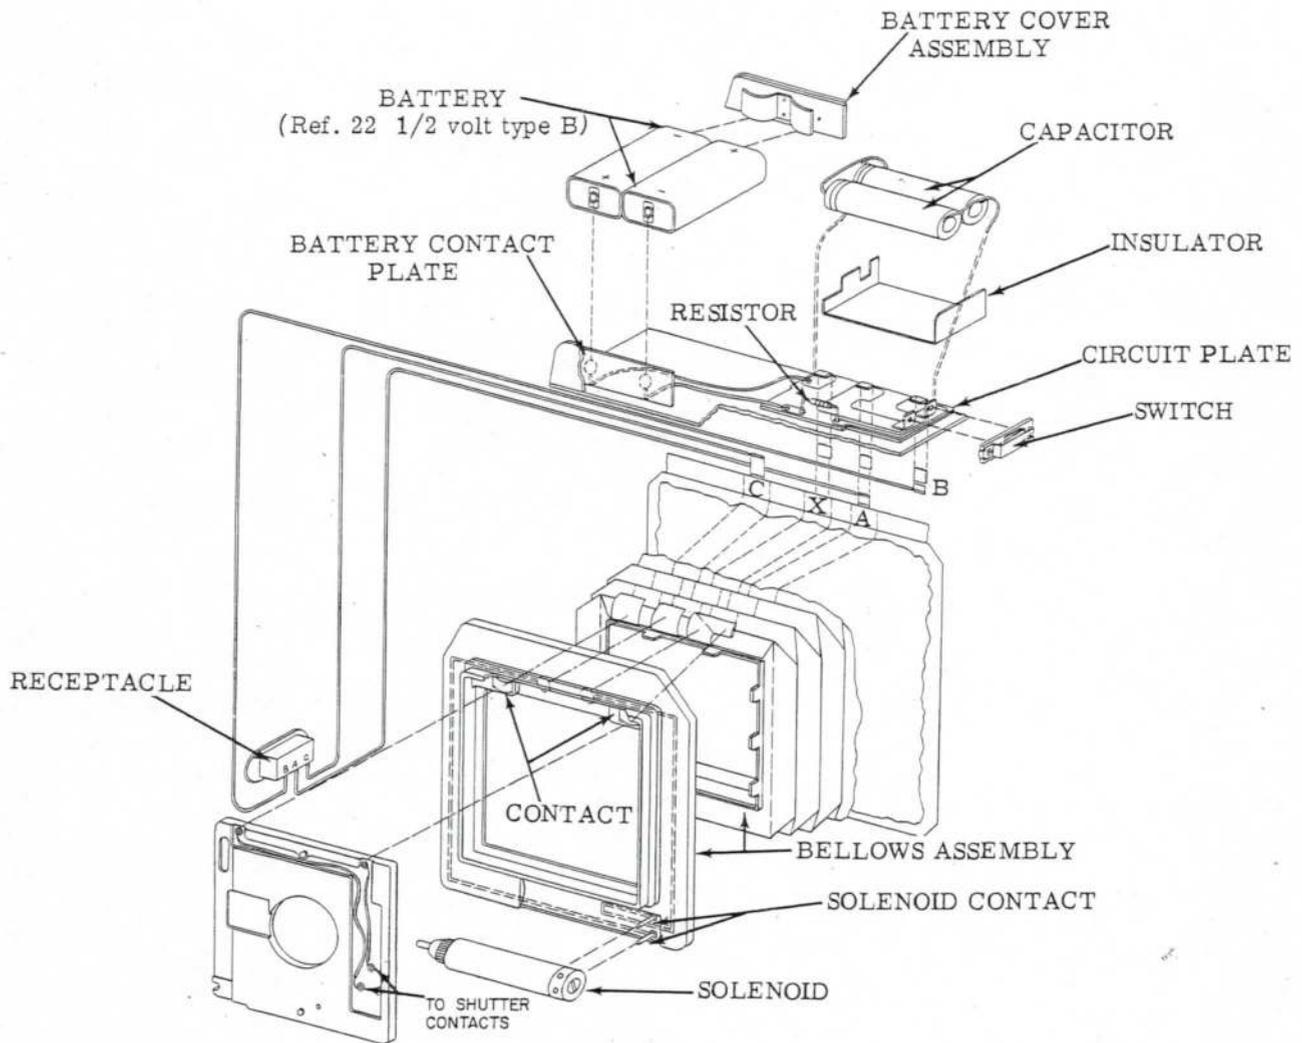
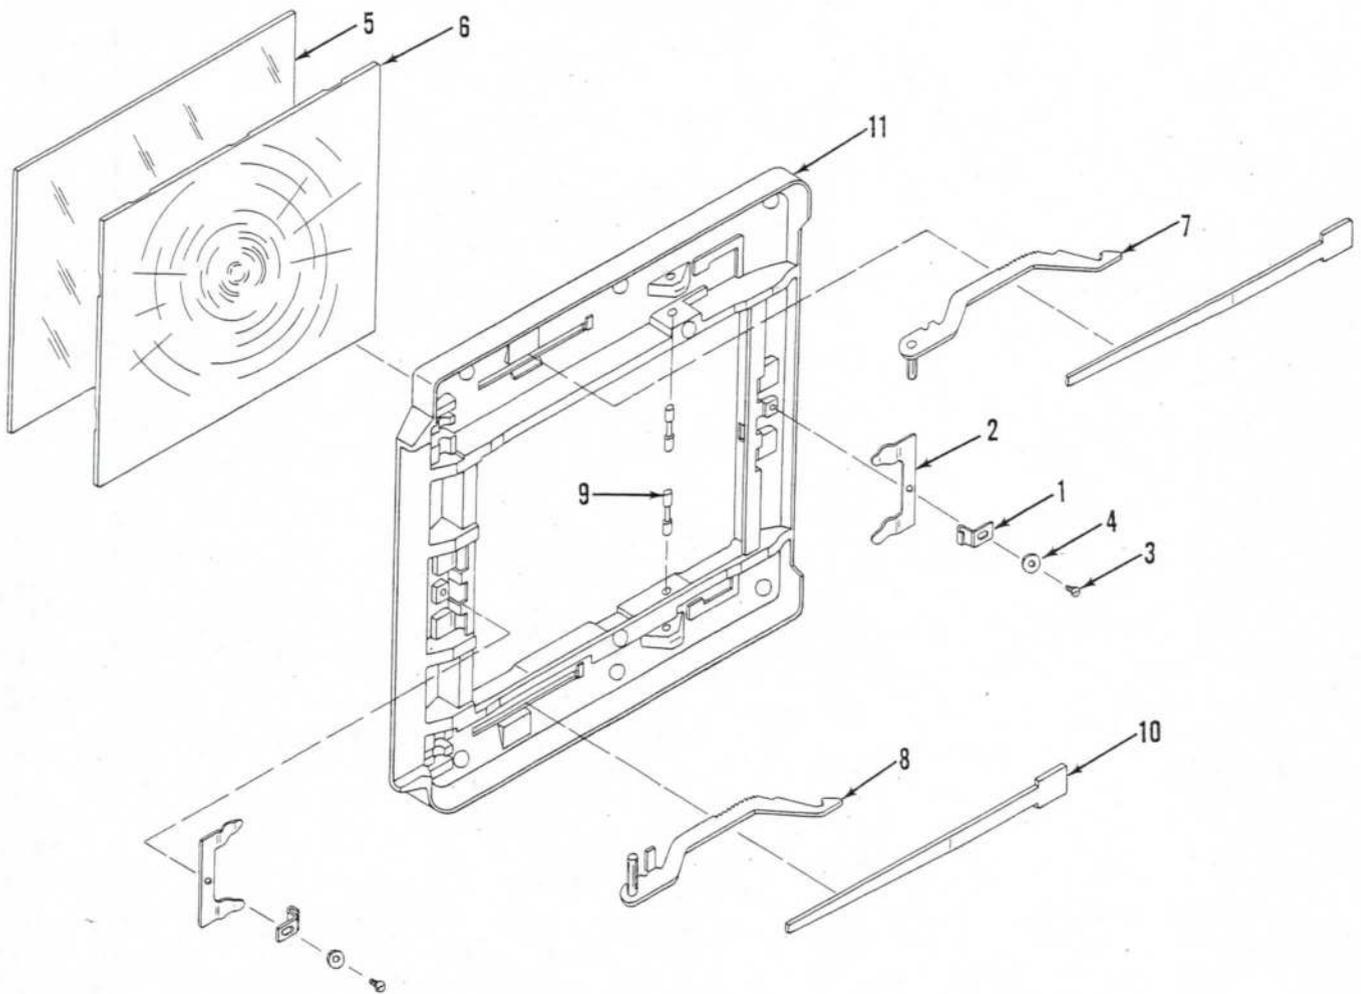
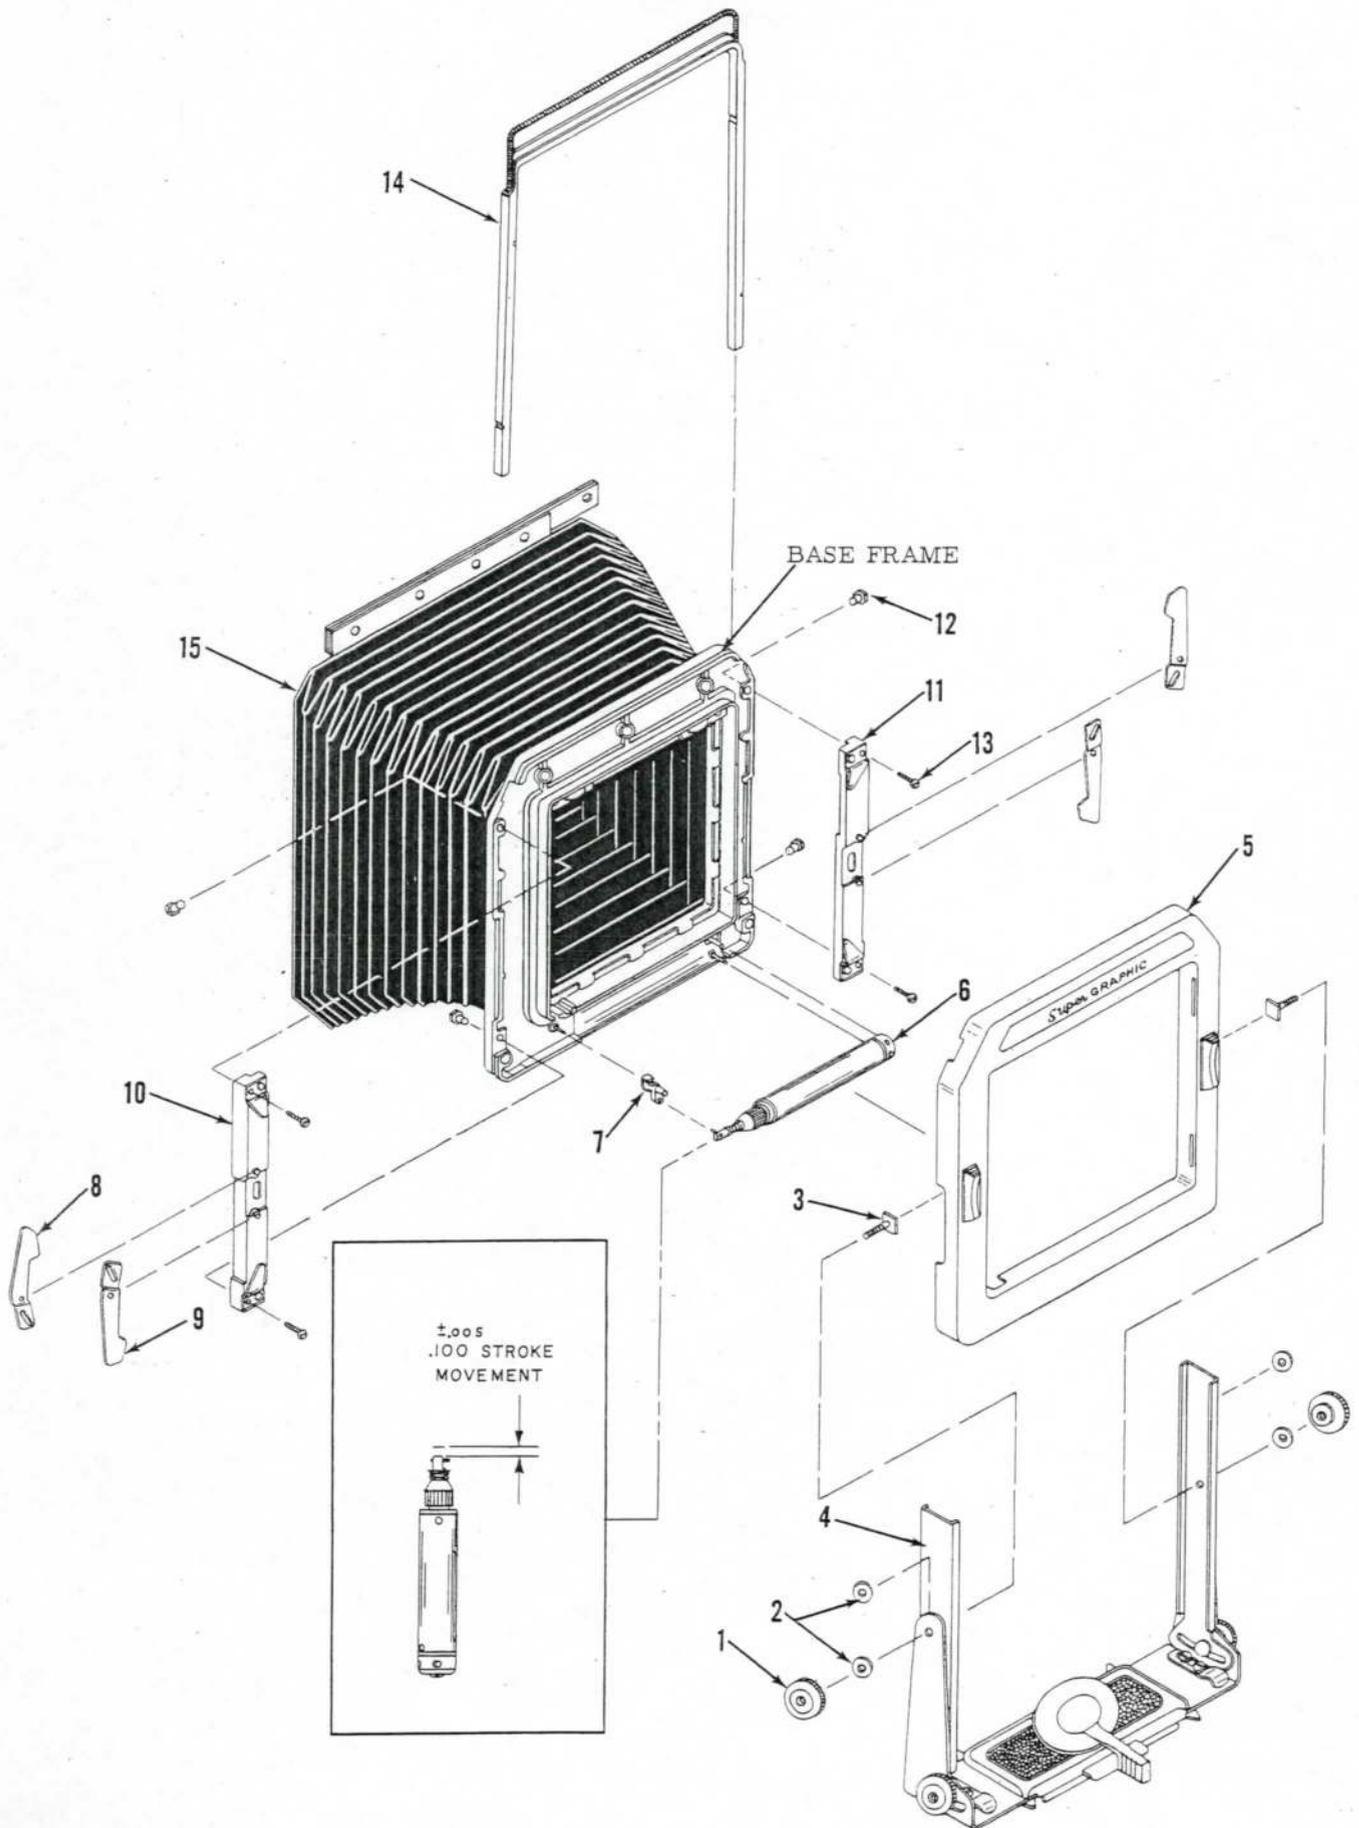
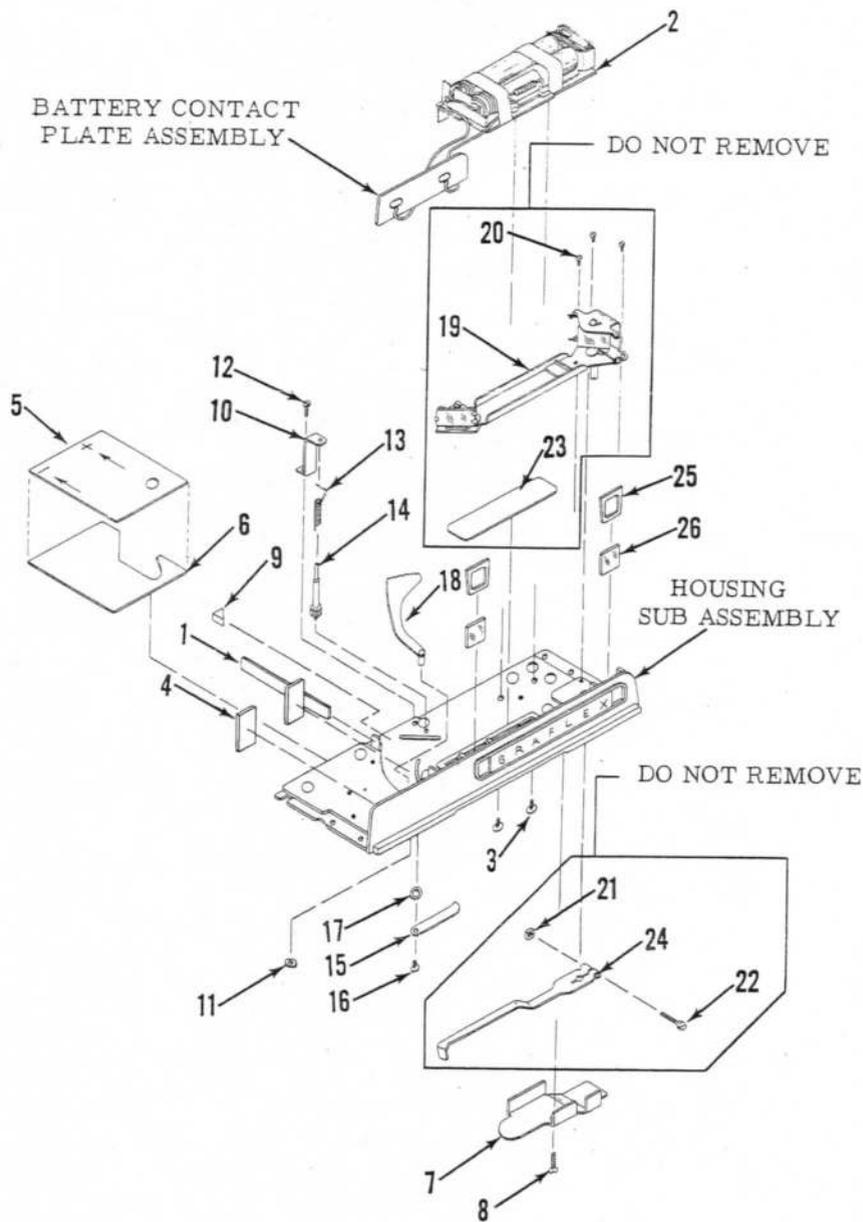

Figure 3. PICTORIAL WIRING DIAGRAM
Figure 16. FOCUSING FRAME ASSEMBLY
Figure 17. FRONT STANDARD COMPLETE
Figure 18. RANGEFINDER HOUSING COMPLETE
1. Remove hood assembly (1) by pressing down on latch to open and pull outward on top or bottom panel. If necessary, remove the dark slide clip (1a) by inserting a small tool under front top corner and press outward.
2. Remove focusing frame (2) by simultaneously pressing downward on knurled finger pads of the upper and lower arms and sliding focusing frame assembly to the right. If further disassembly is necessary see figure 16.
3. Remove battery cover assembly (3) by pressing inward on left side of cover and slide slightly to the left.
4. Remove two batteries (4).
5. Remove clip (5) and release focusing scale cover lock located in upper part of battery compartment and remove focusing scale cover assembly (6). The focusing scale cover lock is riveted to camera body and is part of body complete.
6. Remove focusing scale indicator (7) by applying small amount of methyl ethyl ketone to loosen adhesive around pinion shaft. Using two screwdrivers to support focusing scale indicator, pry straight upward being careful not to bend pinion shaft.
7. Remove exposure guide (8), exposure guide spring (9) and focusing scale plate (10).
8. Remove front standard complete (11) by removing six bellows clips (12), two machine screws (13) and three special machine screws (14). Access to the machine screws can be better accomplished by sliding front standard from bed yoke. If further disassembly is necessary see figure 17.
9. Remove handle (15)
10. Remove upper right handle bracket (16) by removing two machine nuts (17), two lock washers (18), two machine screws (19), two insulating washers (20) and insulator (21).
11. Remove lower right handle bracket (22) by removing two machine screws (23), two insulating washers (24) and insulator (25).
12. Remove upper left handle bracket (26) by removing two machine screws (27), two insulating washers (28) and insulator (29).
13. Remove tube clamp (30) and machine nut (31).
14. Remove lower left handle bracket (32) by removing machine screw (33), machine screw (34), two insulating washers (35) and insulator (36).
15. Remove cam cover stud (37) and cam cover spring (38).
16. Remove cam cover (39) by removing machine screw (40), collar (41), spring washer (42) and flat washer (43).
17. Remove tube clamp (44) by removing machine screw (45) and flat washer (46).
18. Remove tube clamp (47) secured by machine screw (48).
19. Remove tube clamp (49) secured by machine screw (50).
20. Remove rangefinder tube assembly (51), being careful not to tip rangefinder tube, thus preventing balls and spacers from falling out of upper opening. Place masking tape over upper opening, securing balls and spacers within the tube and proceed to further disassemble camera.
21. Unsolder A lead, B lead and disconnect C lead of receptacle (figure 3) from rangefinder circuit plate terminals.
22. Remove junction insulator (52).
23. Remove rangefinder assembly (53) secured by six machine screws (54), being careful when removing housing that pinion shaft does not become bent or broken. Remove shutter release button (55). If further disassembly is necessary see figure 18.
1. Position bed complete (59) in body complete (63) using eight each of flat washer (62), lock washer (61) and machine screw (60). Check bed for squareness, open and close bed making sure bed is operating properly. Adjust if necessary.
2. Assemble back assembly (56) using two wire clips (58) and six machine screws (57).
3. Assemble shutter release button (55) and position rangefinder housing assembly (53) in body complete, being careful not to bend or damage pinion shaft. Adjust rangefinder housing assembly, move forward and backward and press shutter release button until button correctly operates the switch, riveted to rangefinder circuit plate. When proper adjustment has been made, secure rangefinder in position using six machine screws (54).
4. Assemble junction insulator (52) to three terminals of circuit plate assembly.
5. Connect A, B and C leads from receptacle to three terminals on rangefinder circuit plate, see figure 3. Solder A and B leads and crimp C lead.
6. Position rangefinder tube assembly (51) in camera body.
7. Assemble tube clamp (49) using machine screw (50).